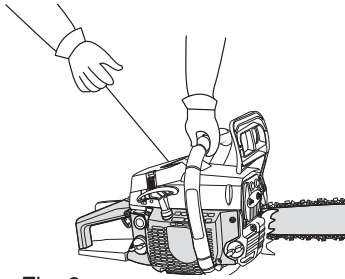

Fig. 9
3. Place the unit on a firm, flat surface. Crouch in the starting position and hold the unit firmly, as shown (Fig. 9). Grip the front handle firmly